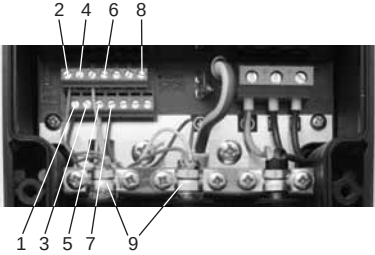

Fig. 5 Sensor and controller connection
- 4. Connect the transmitter and controller cables to the interface. See fig. 5. Cut the white wire of the DPI. Connect the cable screen of both the transmitter and controller cable under the earth clamp.